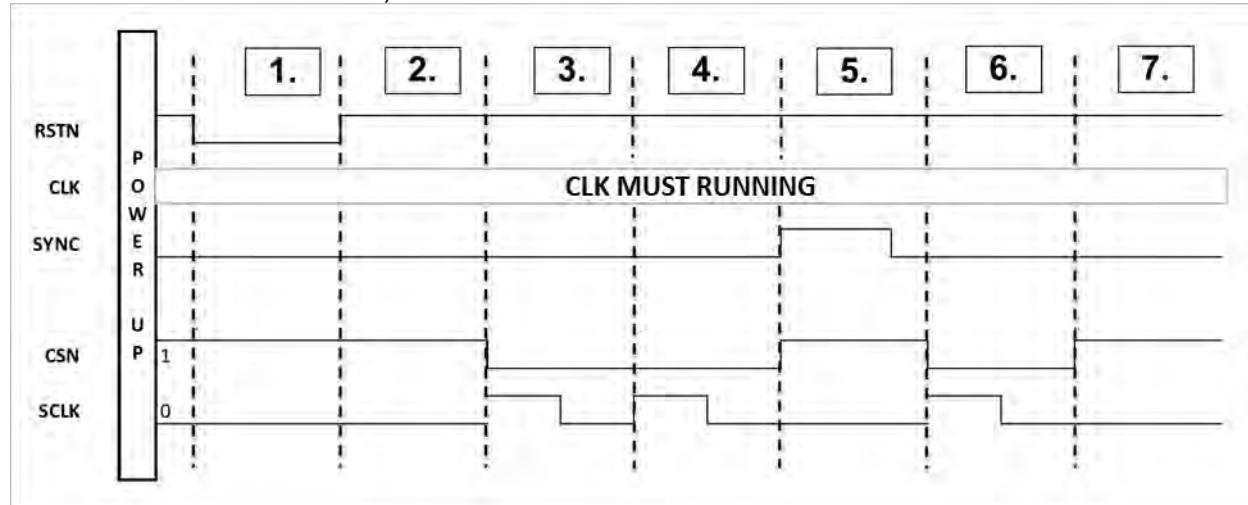

Figure 12: Start-up sequence when using the SPI interface
Figure 12 presents the reset and synchronization to realize after power-up when the SPI is used (see §7 for more information on the SPI interface).
- 5. A pulse is applied onto the SYNCTRIG input to reset the internal clocks (SYNC signal in Figure 12). At this stage, the Trigger mode is disabled.